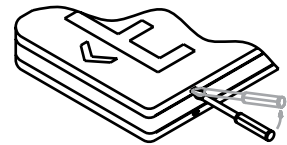

Figure 1 - Faceplate Removal
- Use screwdriver to carefully remove the front faceplate (See Figure 1).